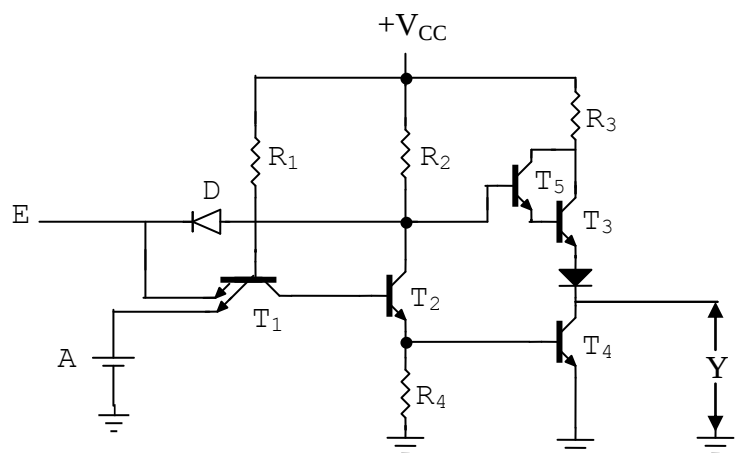

Fig 3.10: TSL Inverter
It is shown in the Fig.3.10. The TSL-Inverter has a controlling signal connected as Enable-signal (E). 'A' is an input signal and 'Y' is the output.